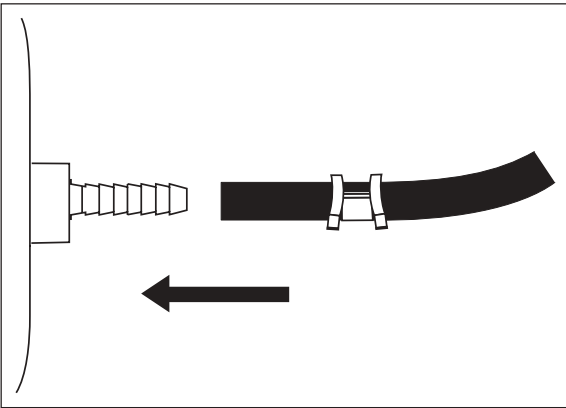

Figure 4
6. Push the air line onto the stem, covering all the barbs (Figure 4). With the pliers, slide the air line clamp upward until it fully covers the barbed section.
7. Push the remaining air line over the last fitting on tee and route along frame to desired inflation valve location (Figure 4). Attach with plastic straps or wire.
5. Push the air line onto the stem, covering all the barbed section (Figure 4). With pliers slide the air line clamp forward until it fully covers barbed section.